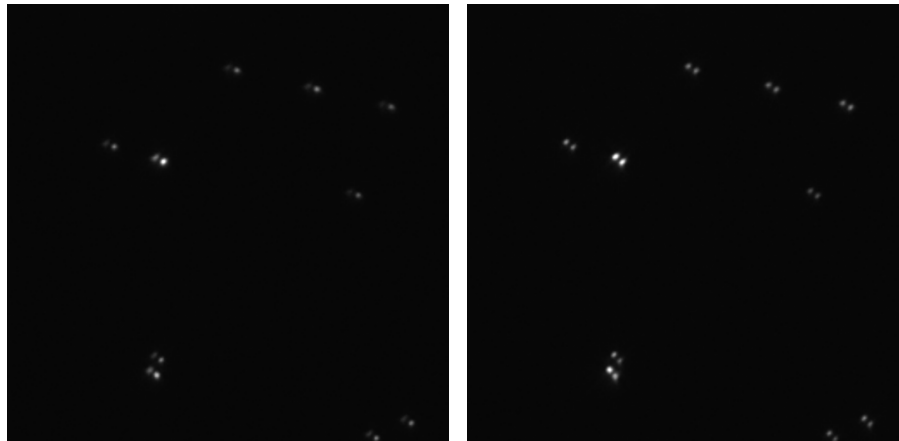

Fig. 462 Adjusting the 3D-PALM slider in HILO using equal illumination intensities of beads with non-optimal (left panel) and correct (right panel) positions.
- **HILO** illumination using 100 nm bead sample. In this case, focus on the beads (the position where the gap between the two lobes points in a 45° direction) and increase laserpower or camera gain to slightly oversaturate judging with Range Indicator. Position the slider so that both lobes become the same intensity (Fig. 462).